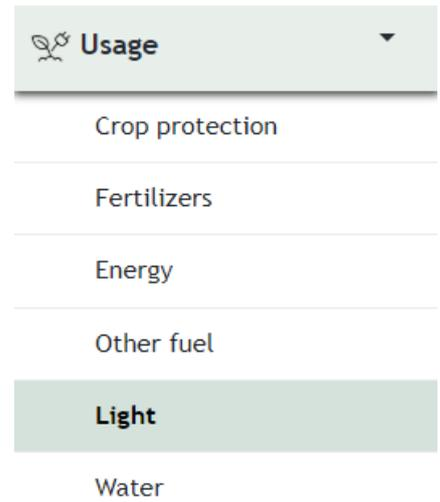

Figure 14
1. Click on 'Usage' in the menu and then on 'Light' (see figure 14).